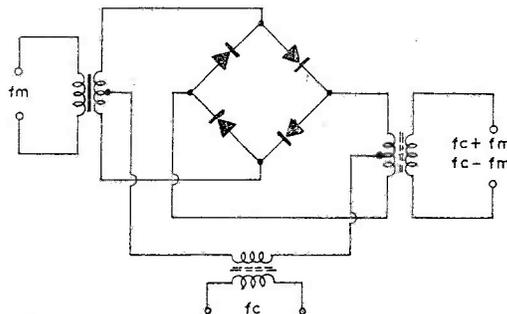

Figure 1.
*Amplitude Modulation.* The name doesn't help in the understanding of sidebands. But it is difficult to think of a suitable replacement. Unfortunately, a lot of students of radio were taught that an RF amplifier is modulated by varying the HT at audio rate (OK so far) thereby varying the amplitude of the output in sympathy with the audio. That's it, they say! It must be all. Let's look at the make up of a 100 per cent modulated carrier, as shown in Fig 1.
*The 4-diode Ring Bridge balanced modulator:* The basic circuit of this is shown in Fig. 1. It has been used successfully for many years by the G.P.O. However, for amateur use, it is not considered necessary to go this far. To get the best results matched diodes are required. With no audio applied the carrier is balanced out in the output transformer.